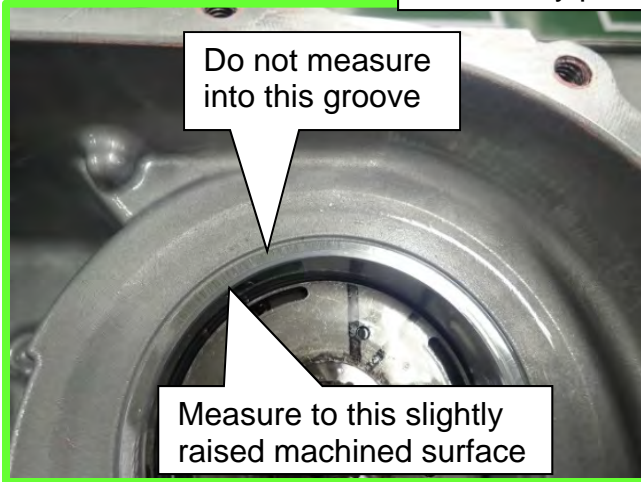
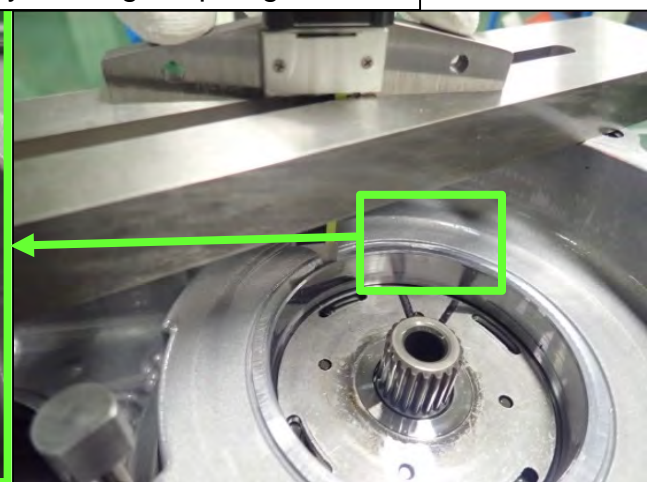

Figure 138
Figure 139
- a. Measure between the top of the Gauge Block (J-50271) to where the snap ring on the secondary pulley bearing seats in three (3) locations to calculate the average value, "Y". Refer to Figure 138 and Figure 139.